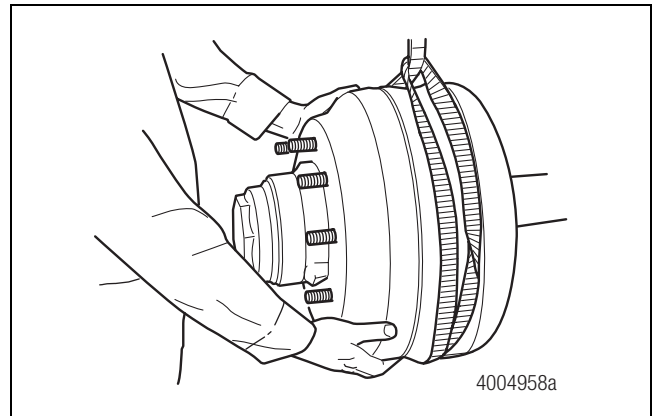

Figure 3.36
14. Install the brake drum and the tire and wheel assembly. Figure 3.36.